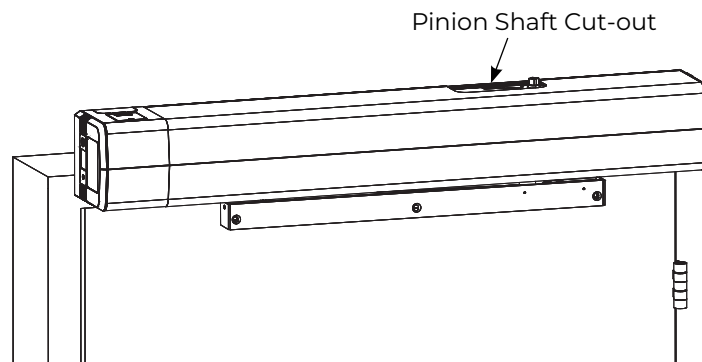

Figure 26
1. Align cut-outs in cover to pinion shafts. (Figure 26)